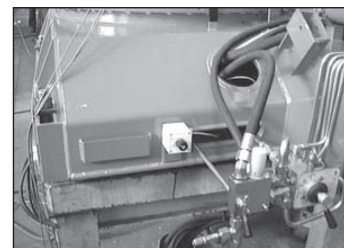

fig. 17
- Connect by cable the remote control to the socket fixed on the base of the crane (fig. 17)